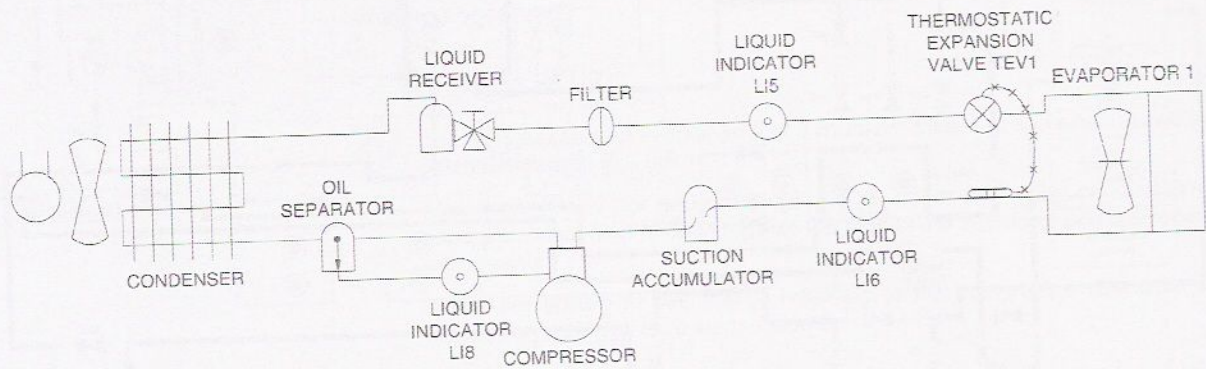
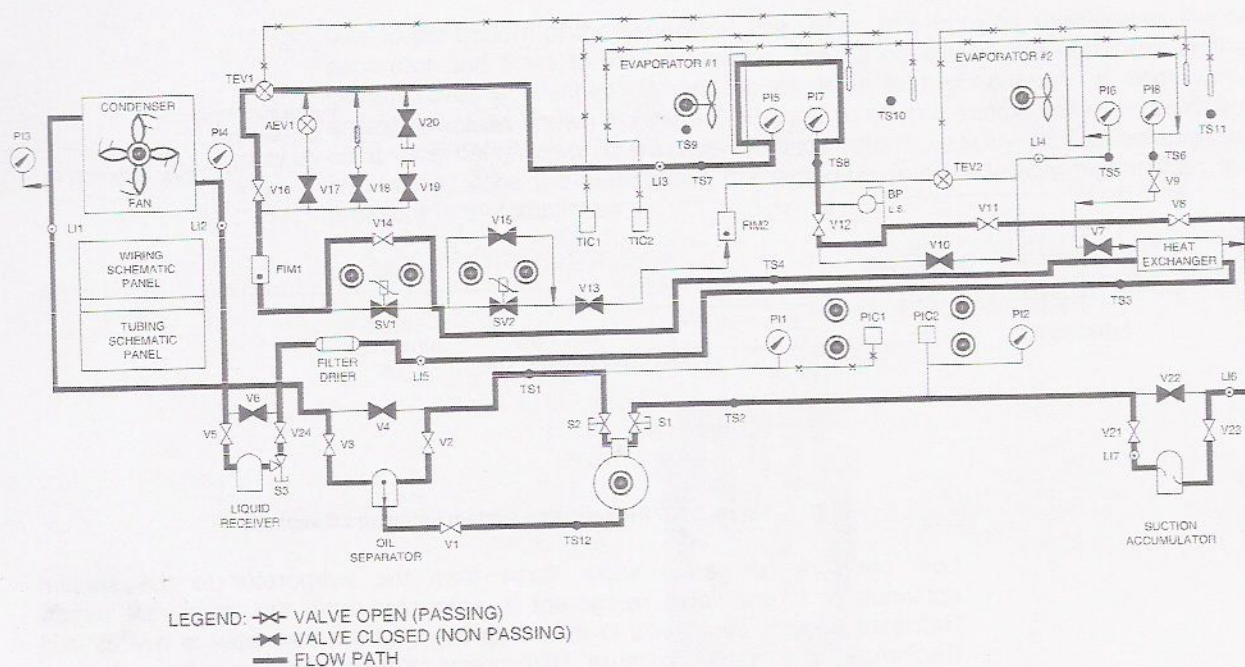

Figure 2-11. Refrigeration system using an oil separator.
Figure 2-12. Valve configuration.
A schematic diagram of a simple refrigeration system using an oil separator is shown in Figure 2-11. Each device in this schematic is appropriately labeled.
The manual valves which must be opened or closed to arrange this system are not indicated on the schematic of Figure 2-11. However, they are indicated on the schematic panel (tubing section) of the trainer shown in Figure 2-12. The valves that are darkened are closed.
1. Open and close the manual valves to arrange the refrigeration system as shown in Figure 2-11. The schematic panel (tubing section) of the trainer shown in Figure 2-12 may be used to assist at this point.